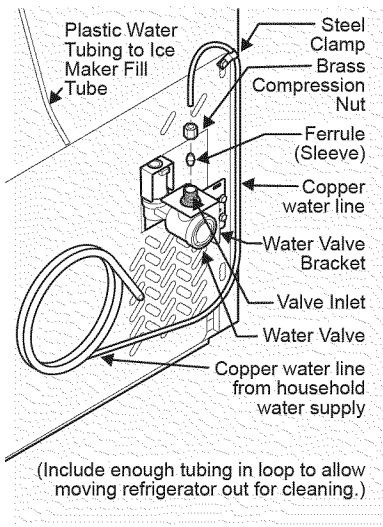

Figure 1
- If you use copper tubing - Slide brass compression nut, then ferrule (sleeve) onto water supply line. Push water supply line into water valve inlet as far as it will go ($\frac{1}{4}$ inch/6 mm). Slide ferrule (sleeve) into valve inlet and finger tighten compression nut onto valve. Tighten another half turn with a wrench; DO NOT overtighten. See Figure 1.